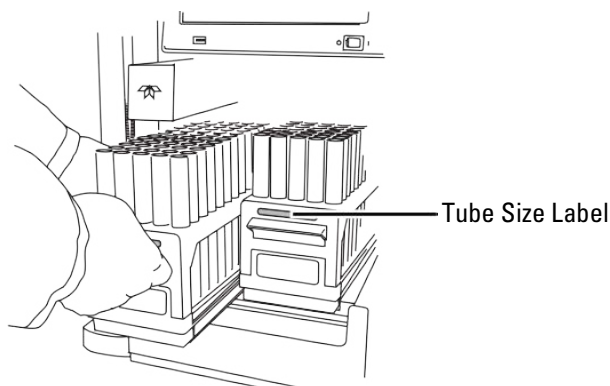

Figure 2-14 Inserting the collection tube rack
2. While holding the rack with the tube size label visible (Figure 2-14), insert the racks into the system. Slide the rack in until it stops. You can feel it drop into its seated position when it is properly loaded.